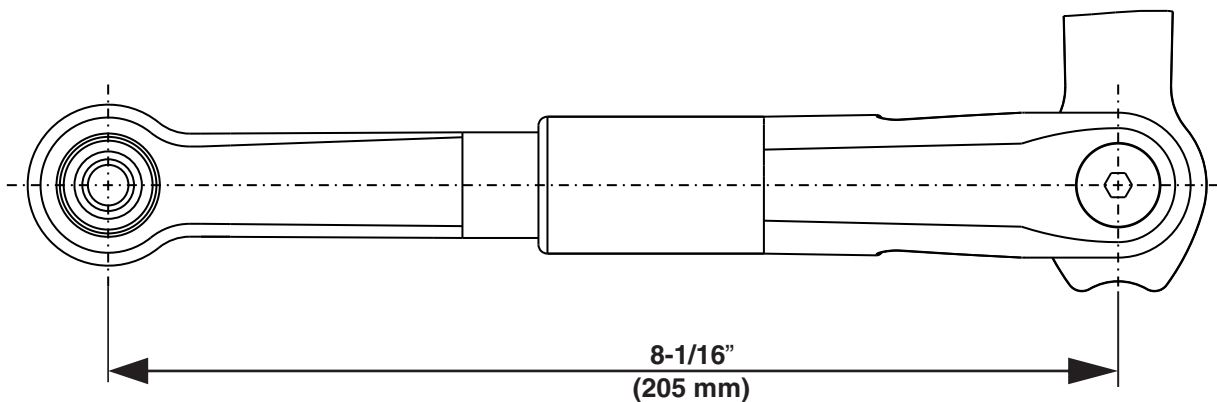

Figure 24
3. Refer to Figure 24, and ADJUST door arm length to 8 1/16" (205 mm).